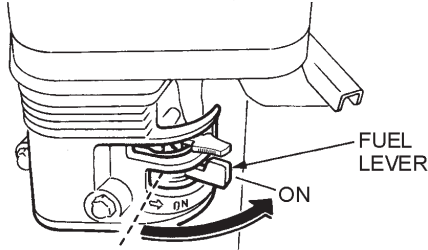

Figure 10. Fuel Valve Lever (ON Position)
1. Place the **fuel valve lever** (Figure 10) in the **ON** position.